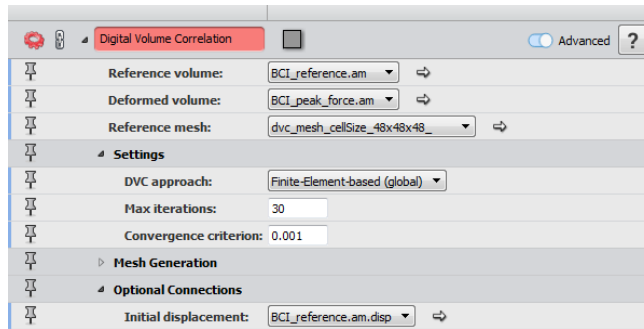

Figure 23.12: Finite-Element-Based (global) Approach.
6. Change the port *DVC Approach* to *Finite-Element-based (global)*. Set the *Max Iterations* port to 30 and *Convergence criterion* to 0.001. Attach the mesh `dvc_mesh_cellSize_48x48x48_` to the port *Reference mesh*. In the *Optional Connections* section, set the *Initial displacement* to `BCI_reference.disp` (displacements computed using the local approach with a sub-volume size of 110 voxels) (see Figure 23.12). Click **Apply**.